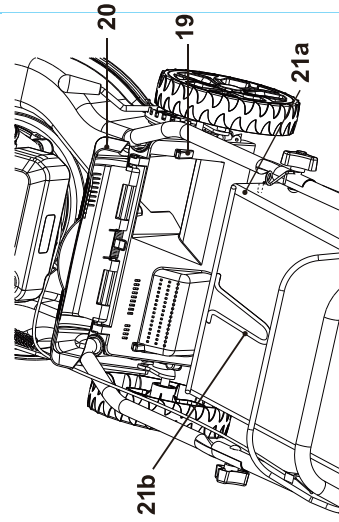

Fig. 4
1. Open the rear deflector guard (20) and hold it in position.
2. Align the hooks (21a) of the grass catcher (21) with the supports (19) to hang it onto it (Fig. 4).
3. Carefully release the rear deflector guard afterwards (20).